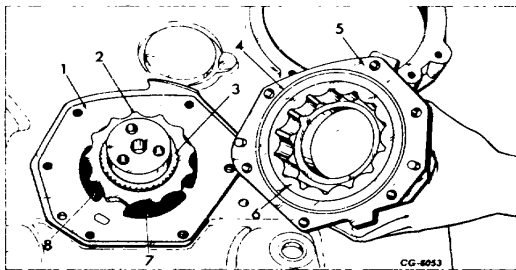

Figure 4. - "GEROTOR" Lubricating Oil Pump
The pump assembly with an "O" Ring sealed porting plate (1, Fig. 4) is fastened to the crankcase front cover so the forward end of the crankshaft passes through the pump. A splined sleeve (3, Fig. 4) on the crankshaft engages the inner rotor (2, Fig. 4). This drives the pump at engine speed.
The inner rotor (2, Fig. 4) is concentric to the crankshaft, whereas the outer rotor (6, Fig. 4) is not. There are 14
spaces in the outer rotor and only 13 teeth on the inner rotor. As the pump rotates, oil from the pan enters the pump on one side (7, Fig. 4) as the teeth leave the outer rotor. The oil is carried to the other side of the pump in the spaces and as the teeth re-enter the spaces, the oil is forced out the pressure port (8, Fig. 4) on its way to the oil cooler.
3. Remove the pump housing (5, Fig. 4) with the outer rotor (6) and "O" ring (4) from the front cover.